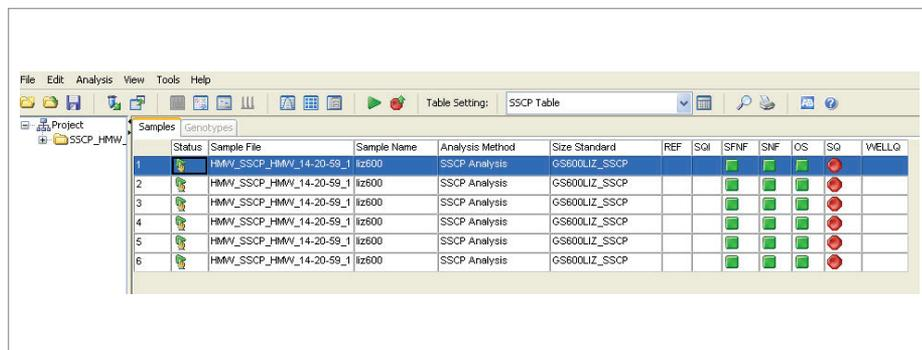

Figure 11. Applying the SSCP-Specific Parameters to the Sample Files in the Project.
25. Apply the SSCP-specific parameters just created to the sample files in the project, as shown in Figure 11.